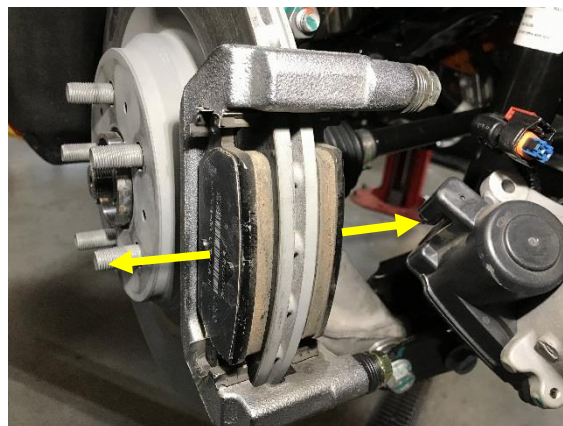

Figure 19 (Model 3 shown, other models similar)
27. Remove the brake pads from the rear LH carrier (Figure 19).